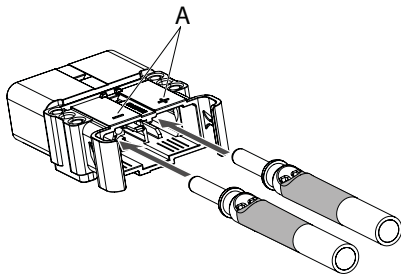

Fig. 15:
An incorrect connection could result in a fatal electric shock. Observe the polarity markings (+) and (-) on the housing of the charger/vehicle plug (Fig. 15/A).
1. Push in the main contacts with crimped cables as far as they will go into the plug housing (Fig. 15).